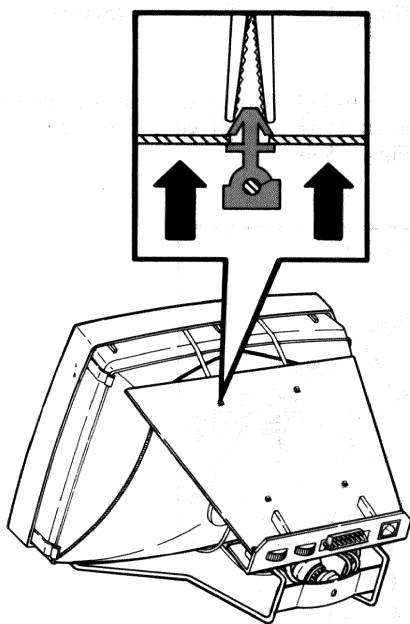

Figure 5-45 Monitor Module Standoff Removal
15. With needlenose pliers, release the standoffs holding the module as shown in Figure 5-45. Do not worry if the standoffs break; the new module comes with new standoffs.